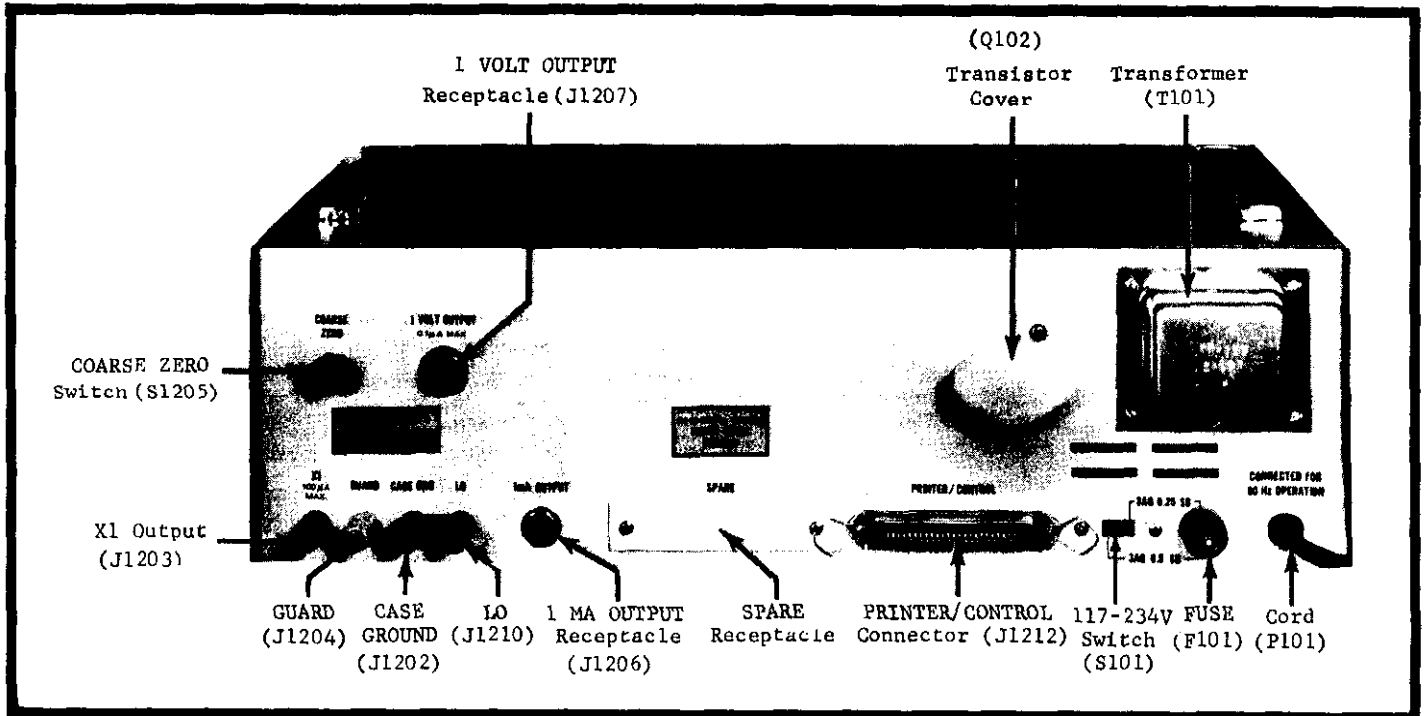

FIGURE 2. Model 615 Rear Panel Controls and Terminals.
Model 615 Rear Panel Controls and Terminals (Figure 2).
a. The Model 615 can measure an unknown voltage when the low impedance terminal is up to 100 volts off case ground. Safe operation of the Electrometer is insured by grounding the case. To use the Model 615 for off ground voltage measurements, disconnect the shorting link between LO and CASE GND Terminals on the rear panel. (Refer to Figure 2).